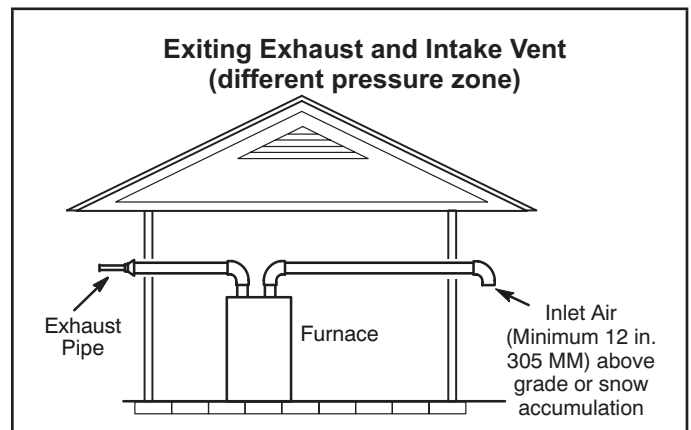
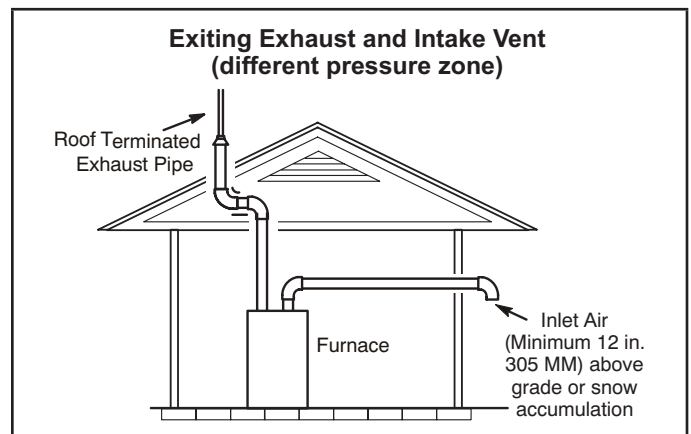

FIGURE 37
FIGURE 38
- 1 - Intake and exhaust terminations are not required to be in the same pressure zone. You may exit the intake on one side of the structure and the exhaust on another side ("FIGURE 37"). You may exit the exhaust out the roof and the intake out the side of the structure ("FIGURE 38").